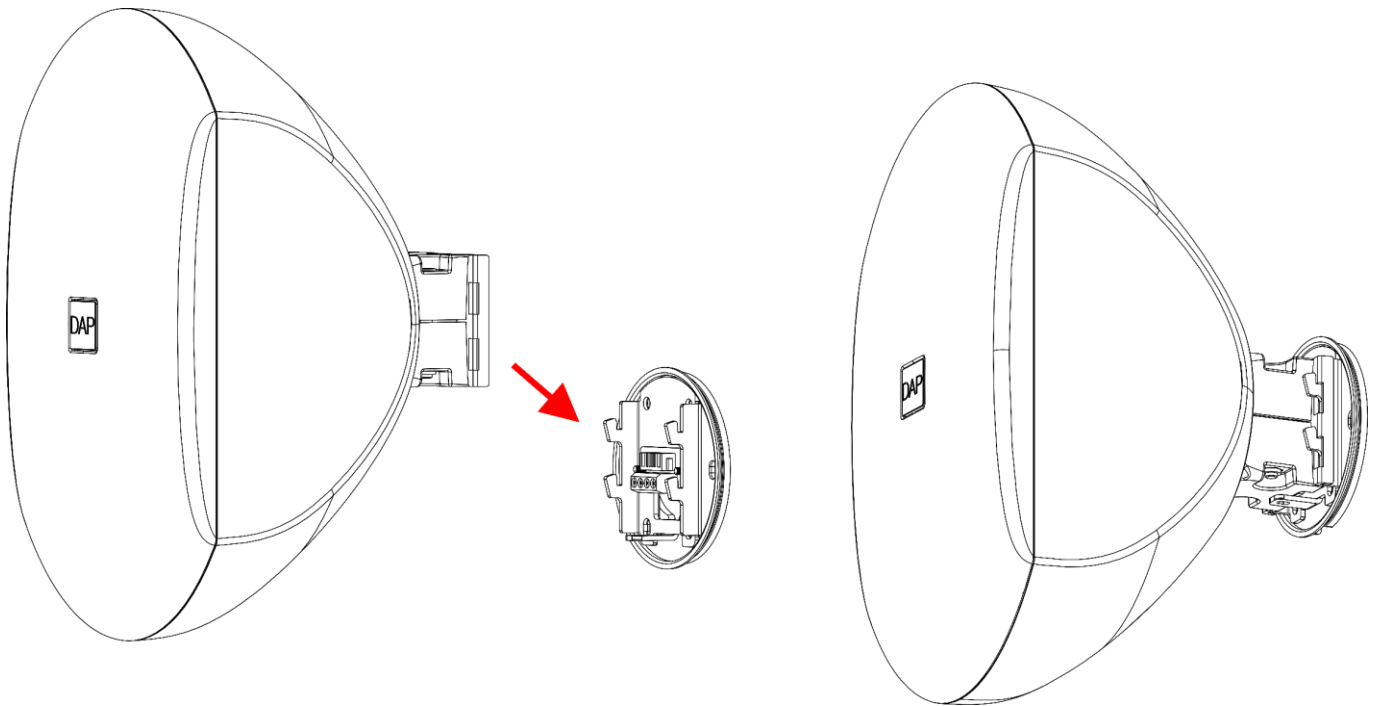

Fig. 17
- 01) Turn the **mounting screw (09)** counter-clockwise to remove it.
- 02) Hang the speaker on the **mounting plate (07)** (Fig. 17).